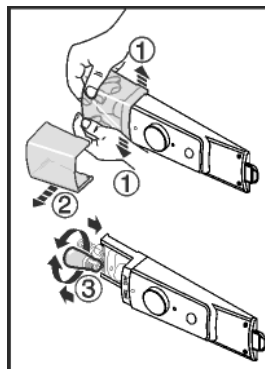

Fig. 10
- Push the lamp cover in and apart at the front *Fig. 10 (1)*, and remove to the side *Fig. 10 (2)* as shown in the illustration.
- Replace the lamp. *Fig. 10 (3)*